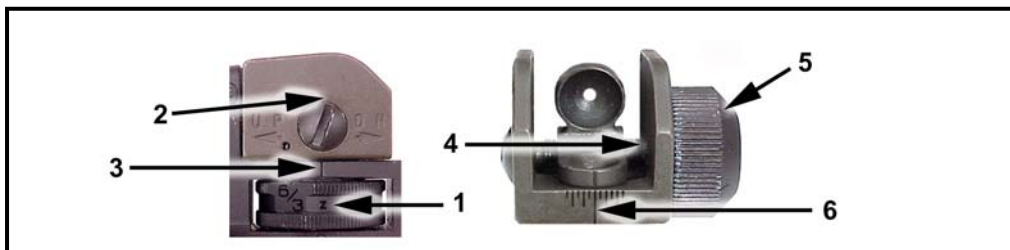

Figure 2-9. M16A4 MWS battlesight zero.
(2) **Battlesight Zero the M16A4 MWS.** If necessary, the soldier should battlesight zero the weapon as follows (Figure 2-9):
- (a) Adjust the elevation knob (1) counterclockwise, when viewed from above, until the rear sight assembly (2) rests flush with the detachable carrying handle and the 6/3 marking is aligned with the index line (3) on the left side of the detachable carrying handle. To finish the procedure, adjust the elevation knob two clicks clockwise so the index line on the left side of the detachable carrying handle is aligned with the “Z” on the elevation knob.
- (b) Position the apertures (4) so the unmarked aperture is up and the 0-200 meter aperture is down. Rotate the windage knob (5) to align the index mark on the 0-200 meter aperture with the long center index line (6) on the rear sight assembly.